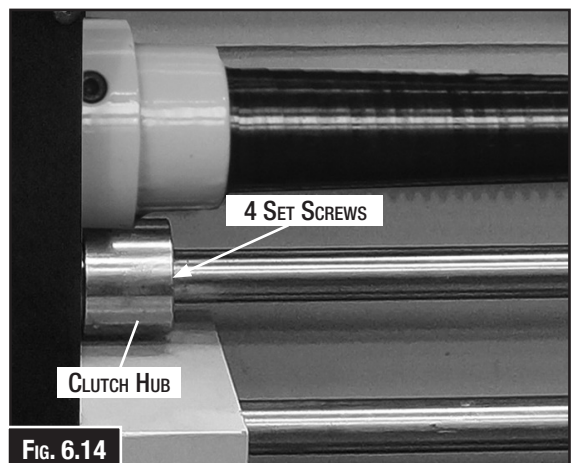

Fig. 6.14
3. If the clutch slips during normal work loads, increase the clutch spring pressure by tightening each of the four clutch drive set screws on the face of the clutch hub (Fig. 6.14) one full turn, then recheck for slippage. If the clutch does not slip when it should, reduce the clutch spring pressure by loosening each of the four clutch set screws one full turn, then recheck for slippage.